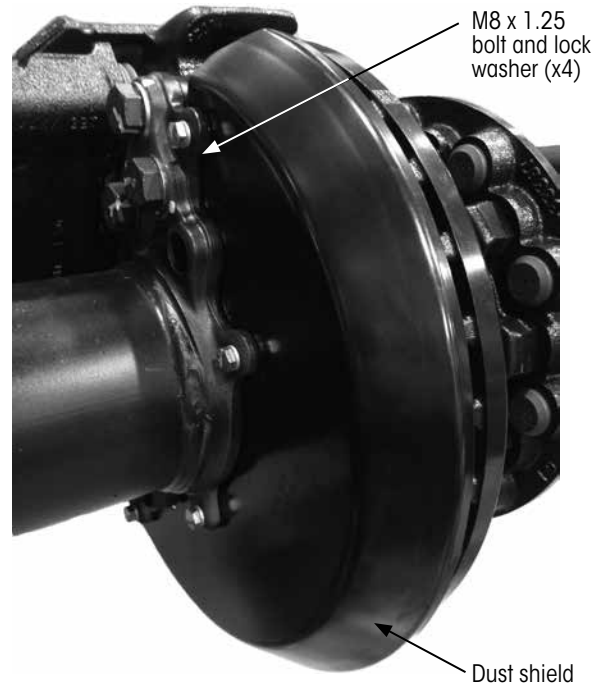

Figure 93: Dust shield
The dust shield is bolted to the torque plate with four M8 x 1.25 bolts and lock washers (Figure 93).
- The dust shield must be mounted and fastened as shown in Figure 93.
3. Position new dust shield as shown in Figure 93.